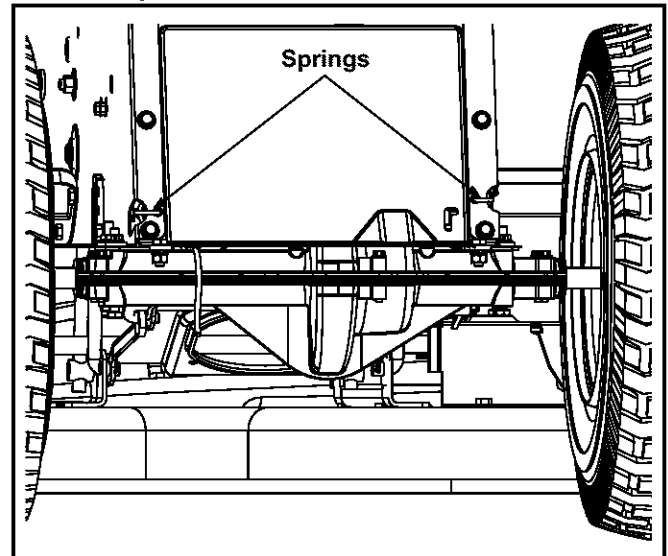

Figure 22
- Using a spring puller (Part No. 732-0571) or other suitable tool, disconnect the two springs which are attached to the rear portion of the tractor frame. See Figure 22.